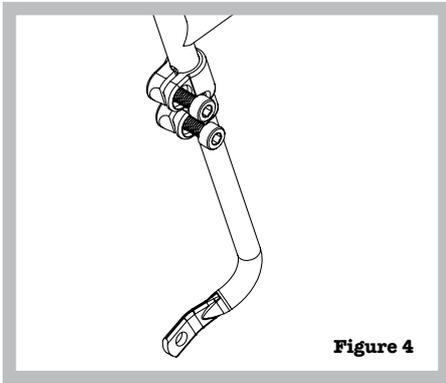
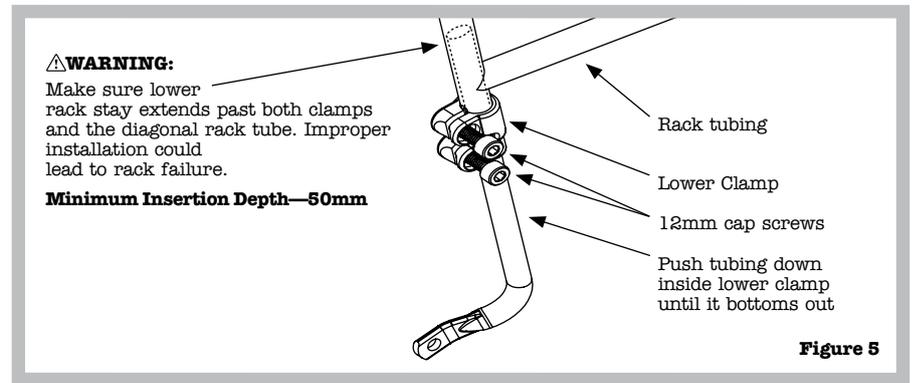

Figure 4
Figure 5
4. Lightly grease the lower rack stays and install them into the clamps. (Figure 4). Grease the threads of the 12mm cap screws, and partially thread the screws into the clamps. (Figure 5). Don't tighten them yet.
5. Grease the threads of the M8 set screws and thread them into the upper barrels approximately 5–6mm. (Figure 4)